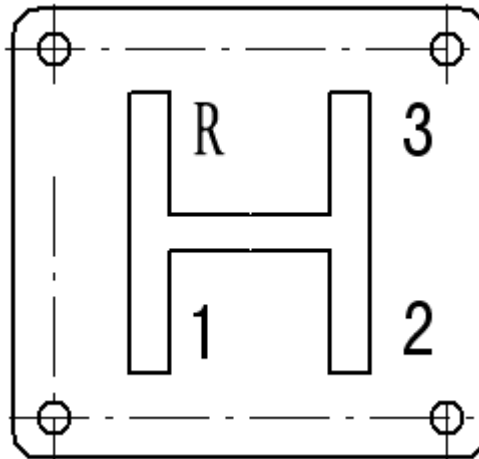

Fig. 4-2 Tractor gears indicator
(1) Gear indicator: located on the bridge shell and indicating the location of gear lever (Fig. 4-2)
(2) Master gear lever: to control master gears shifting (Fig. 4-2)
(3) PTO lever: to release or shift several PTO speeds for output.
(4) Steering wheel: to control the running direction of tractor.
(5) Switch of profile lights: to use tractor profile lights during traveling and operating at night.
(6) Clutch pedal: to get power disengaged through stepping down the pedal
(7) Switch of head lamps: to switch on the head lamps for traveling and operation at night.
(8) Switch of steering indicator: to switch on the indicators for turning.
(9) Gauge for oil and water temperature: to indicate oil and cooling liquid temperature.
(10) Speed and timing meters: to show the working speed of the engine and the accumulated service time of tractor.
(11) Engine oil manometer: to indicate oil pressure of the engine oil. Normal working pressure is (0.4—0.6)Mpa
(12) Switch of rear working lights: Switch on the rear working lights for implement's operation at night